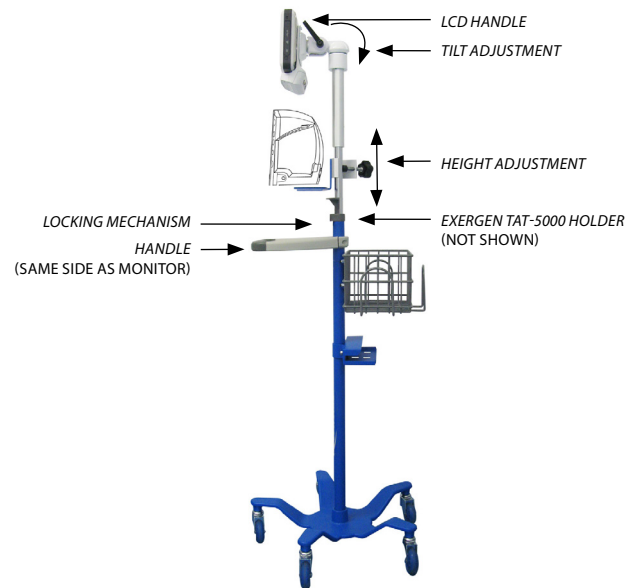

Figure 9a
- 1a. To tilt, first support the Capsule Neuron monitor, then loosen the **LCD HANDLE (Figure 9a)** by turning it counter-clockwise.
- 1a. Orient as per **Figure 9a**.